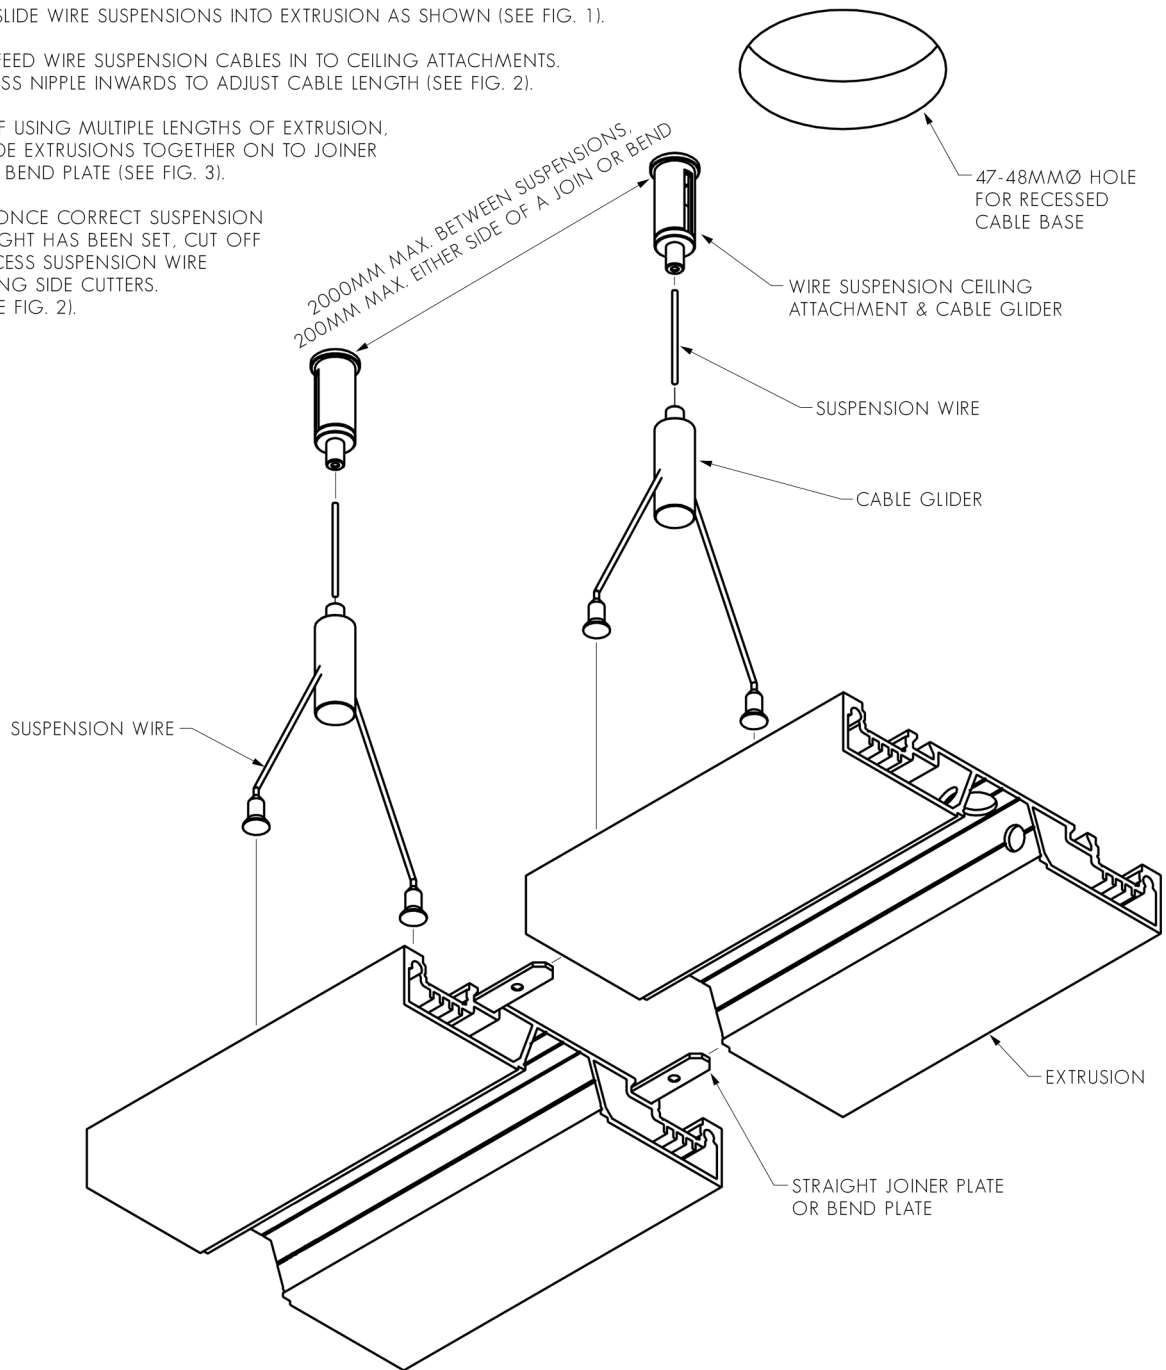

FIG. 1 - ENSURE SUSPENSION WIRES ARE MOUNTED SECURELY
1. SLIDE WIRE SUSPENSIONS INTO EXTRUSION AS SHOWN (SEE FIG. 1).